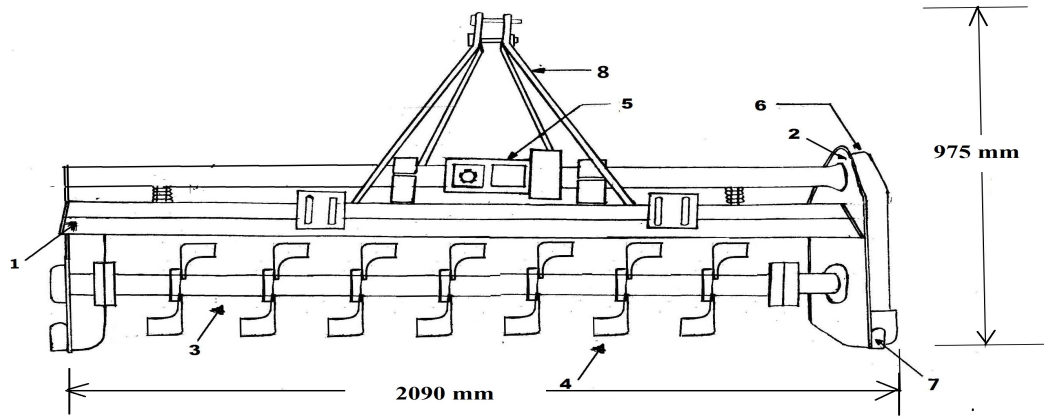

Fig.1: -----Rotavator
1.2 Constructional Details (Refer Fig.1):